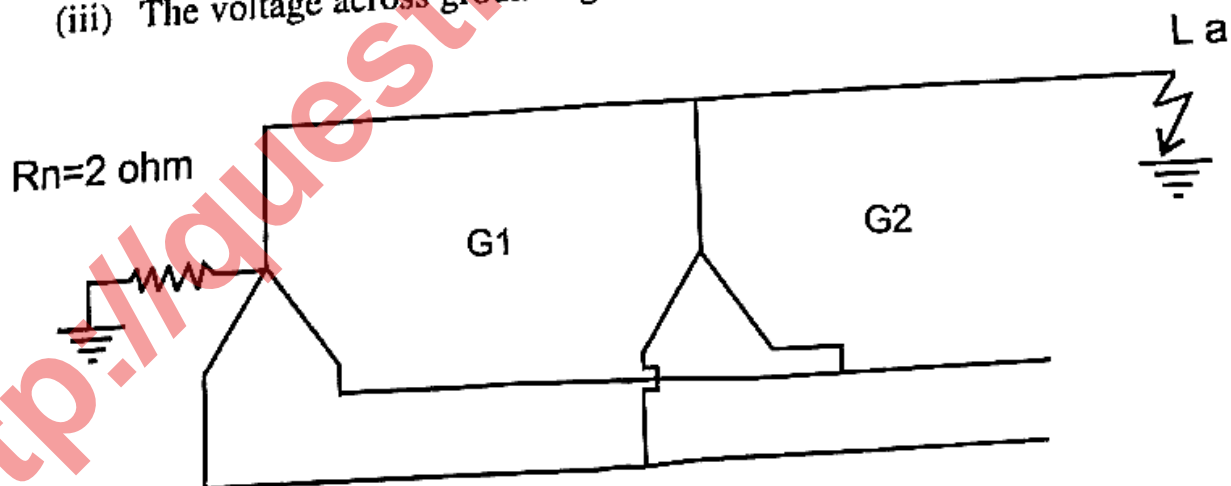

Figure 4
- (b) Two 11KV, 20MVA, three - phase, star connected generators operate in parallel as shown in figure 4, the positive, negative and zero sequence reactance of each being, respectively  $j0.18$ ,  $j0.15$ ,  $j0.10$  pu. The star point of one of the generator is isolated and that of the other is earthed through a  $2.0$  ohm resistor. A single line to ground fault occurs at the terminals of one of the generators. Estimate- [8]